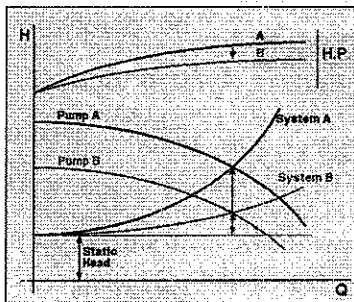

Figure 5. Life cycle system costing (graphic courtesy of the Hydraulic Institute (HI) and Europump)
A diagram from the book on Life Cycle Cost produced by the Hydraulic Institute (HI) and Europump shows a relationship between the pump cost, the system cost and the energy cost of running the pump with various sizes of pipelines, and the resultant changes in the total life cost of the system (see Figure 5).